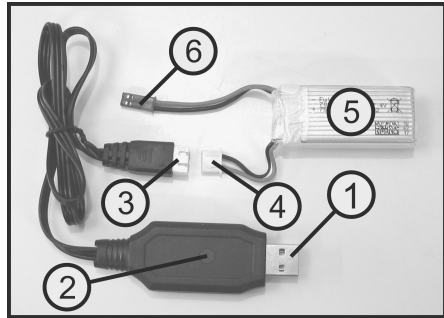
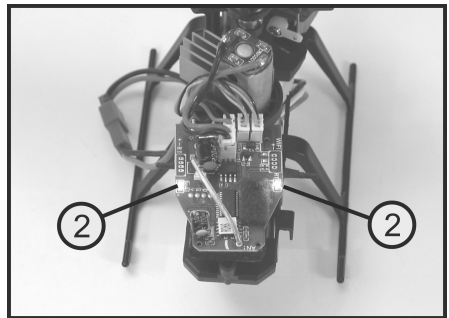

Figure 5
Figure 14
→ For photographic reasons, the charging cable is shown in wound condition at the top of Figure 5. Before first use, remove the cable tie and fully unwind the charging cable.
→ The two-pin cable with the BEC connector (see Figure 5, no. 6) is not required for charging. This connector serves to connect the charged battery with the model helicopter.
Connect the BEC plug of the helicopter battery (see also Figure 5, no. 6) to the BEC socket (1) of the model helicopter. The right and left LEDs under the cabin cover (see also Figure 14, no. 2) go on briefly and then begin to flicker.
→ For a better illustration of the position of the LEDs, the cabin cover was removed in Figure 14.